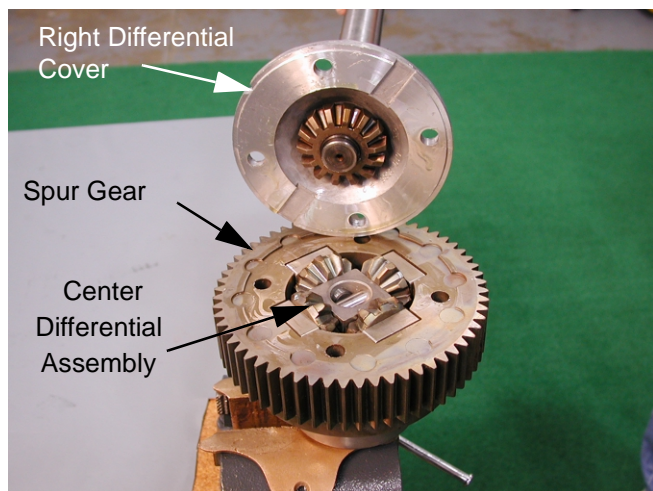

Figure 27
36. Remove all four hex bolts securing the differential assembly together using a 9/16" socket. See Figure 27.